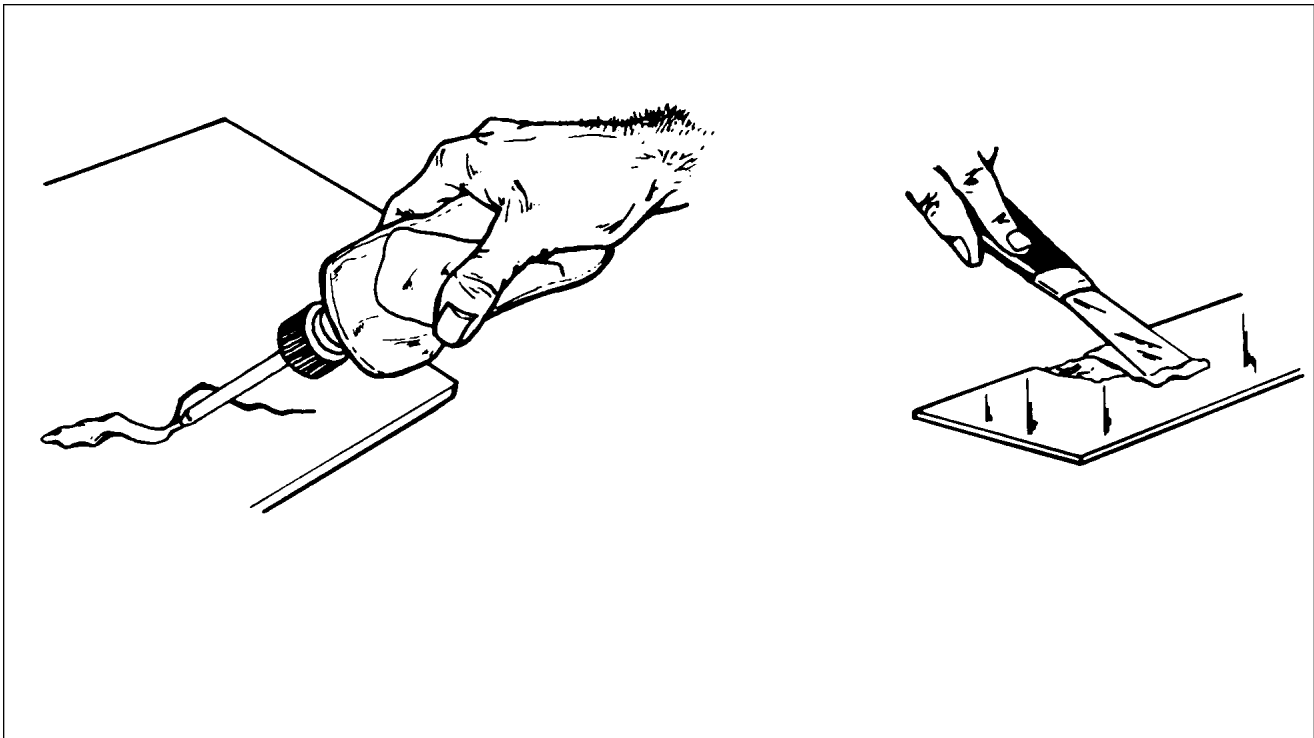

Figure 51-4. Deep Scratches, Shallow Nicks and Small Holes
3. Deep Scratches, Shallow Nicks, and Small Holes: (Less than 1 inch in diameter.) (Refer to Figure 51-4.)